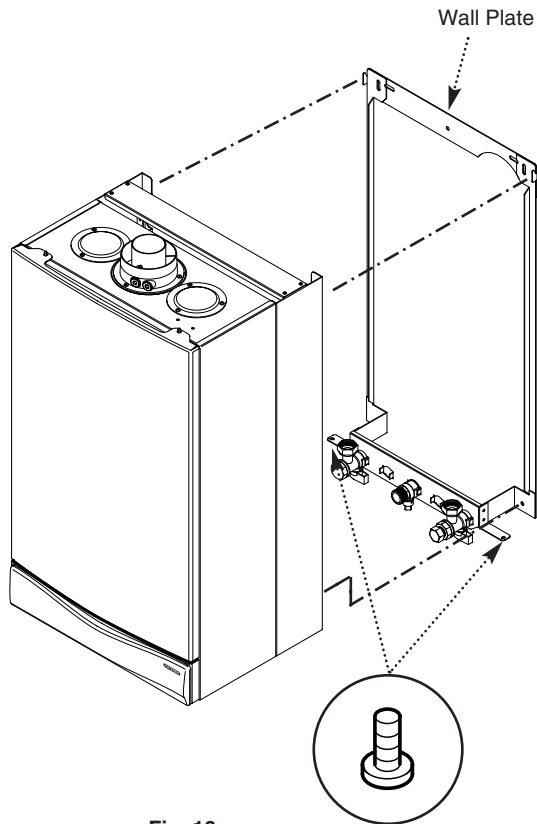

Fig. 16
2. Lift the boiler using the lower edges. Engage the slots at the top rear of the boiler on the wall plate (Fig. 16).
5. Secure the boiler side panels to the boiler wall plate flanges using the screws provided (Fig. 16).